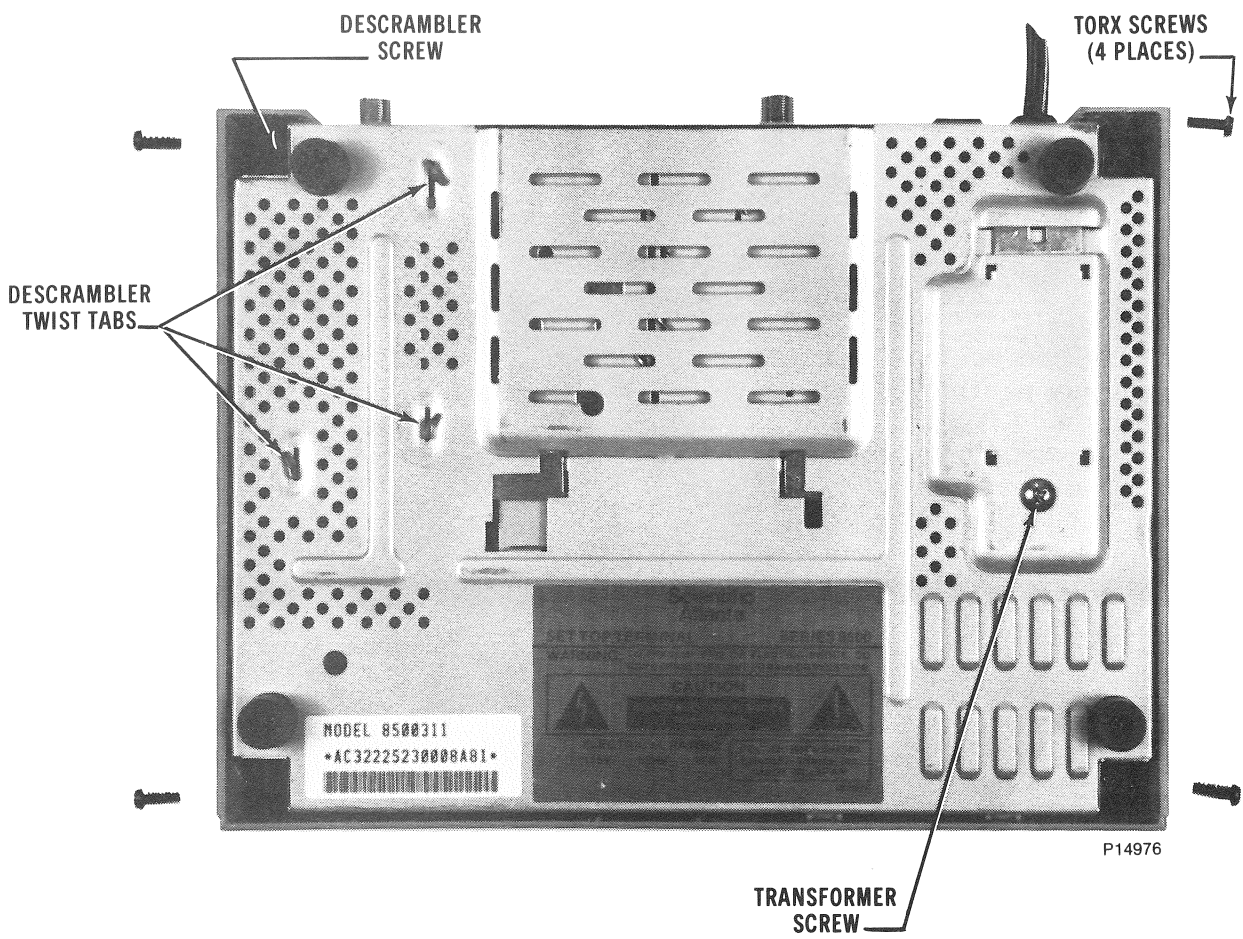

Figure 5-1. 8500 Bottem View
5.3.2.2 Cover Removal. Turn the unit upside down and remove the Torx screw from each corner as shown in figure 5-1. Now turn the unit back over and lift off the cover by raising the back-end first. Use caution because the cable is connected to the keypad circuit board. Once the cover is off, you can unplug the connector.
5.3.2.7 Descrambler Removal (figures 5-1 and 5-7).
- Step 6. Turn unit over and straighten the three twist tabs, see figure 5-1.
NOTE: SEE BOTTOM VIEW, FIGURE 5-1
- Step 3. Using pliers or nut driver, hold nut (under cardboard) while removing transformer screw from bottom of chassis, see figure 5-1.